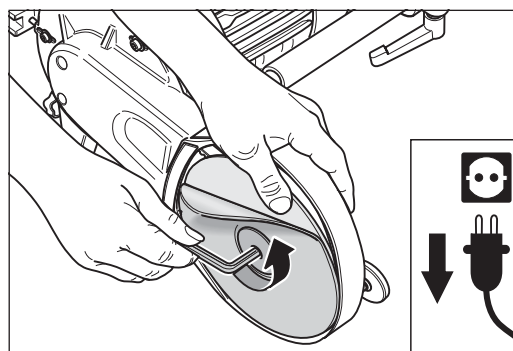

Fig. 49 Undo the sandpaper tensioning screw. To hold the sanding disc wheel, use your thumb to grab behind the sanding disc.
- 3 Use the proper Allen key and undo the sandpaper tensioning screw (normal right-hand thread). At the same time, use your other hand to hold the sanding disc wheel. If you use your thumb to grab behind the sanding disc, you will reduce the wear on the sandpaper tensioning screw (fig. 49).